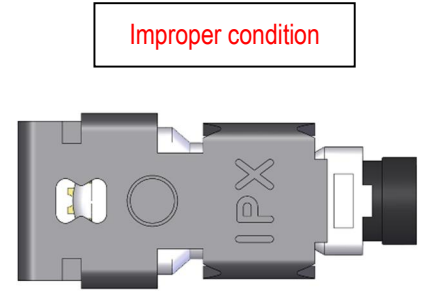

Figure 27 (Incomplete locking)
- Incomplete locking as Figure 27 reduces the retention force. Check the locking part position after slid the LK and felt a click.